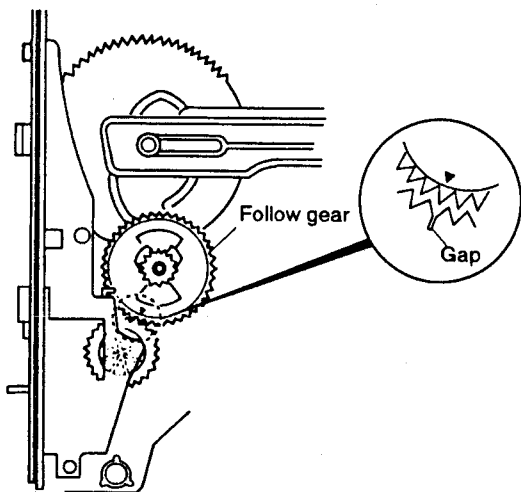

Fig. 16
- ① Mount the roller plate assembly in the position where the tooth with a triangle mark of the follow gear meshes with the gap of the gear of the roller plate assembly. (Fig.16)